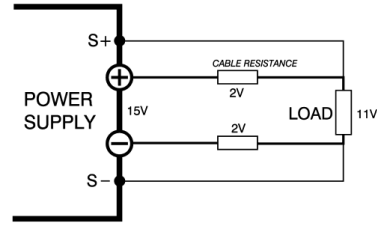

Figure 7.9: Remote sensing: voltage drop in DC load leads subtracts from the maximum DC output voltage.
- In Figure 7.9, it can be seen that on a 15 V power supply only 11 V will be available on the load when 2 x 2 V compensation is used.